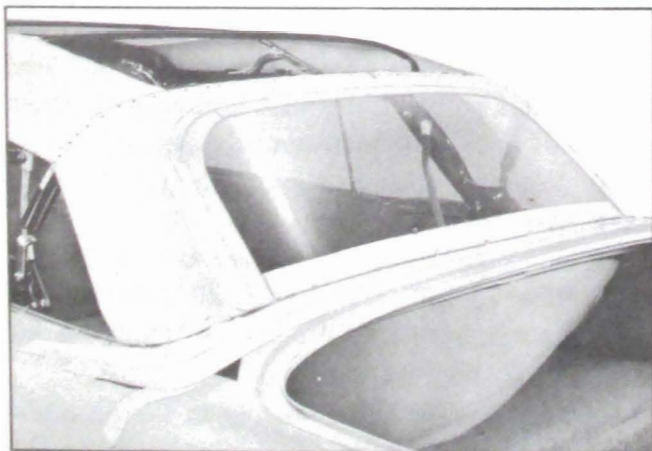

Figure 13-109—Tacking Back Curtain
11. Tack back curtain to rear bow as shown in Figure 13-109. Make sure all fullness has been drawn from curtain before trimming off excess at rear bow.